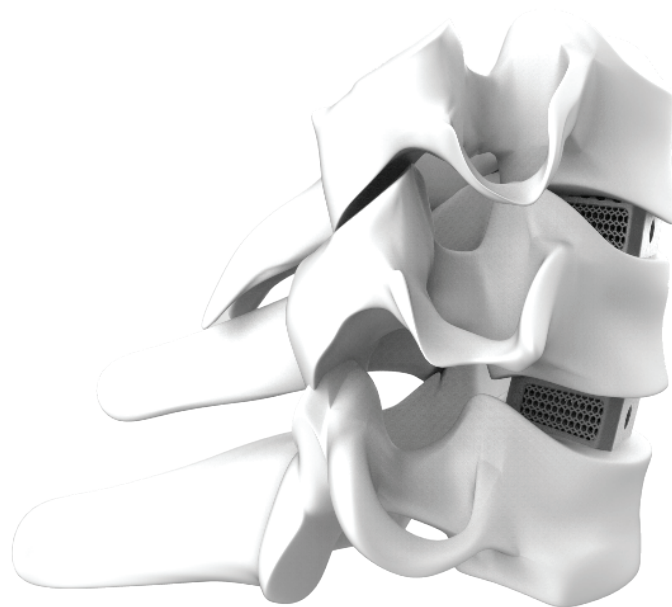

Figure 10
- The use of fluoroscopy is recommended during any or all of the implantation steps to ensure proper positioning (Figure 10).